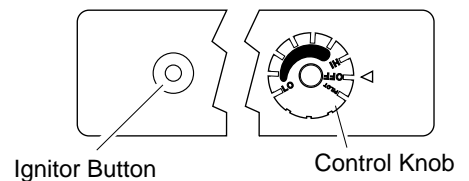

Figure 27 - Control Knob and Ignitor Button
4. Wait five (5) minutes to clear out any gas. Then smell for gas, including near the floor. If you smell gas, STOP! Follow "B" in the safety information, page 15. If you don't smell gas, go to the next step.
5. Turn control knob counterclockwise to the PILOT position. Press in control knob for five (5) seconds (see Figure 27, page 15).
**Note:** If pilot goes out, repeat steps 3 through 7. This heater has a safety interlock system. Wait one (1) minute for system to reset before lighting pilot again.